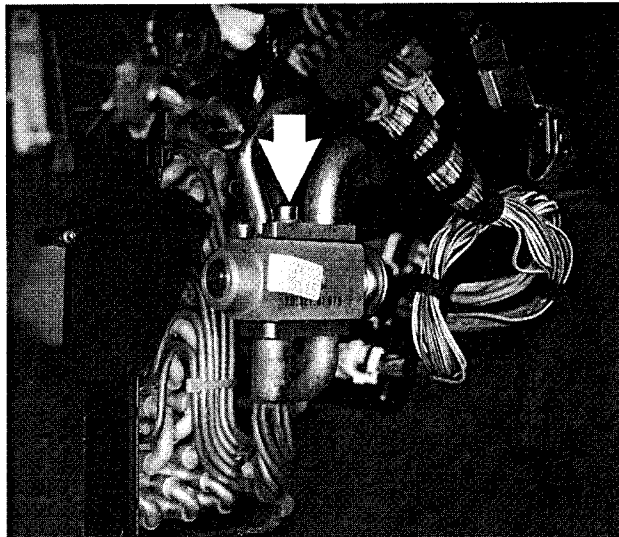

Fig. 47. Refrigerant line flange mounting bolt at expansion valve (arrow).
6. Remove A/C refrigerant line flange bolt(s) from expansion valve. Plug lines immediately. See Fig. 47.